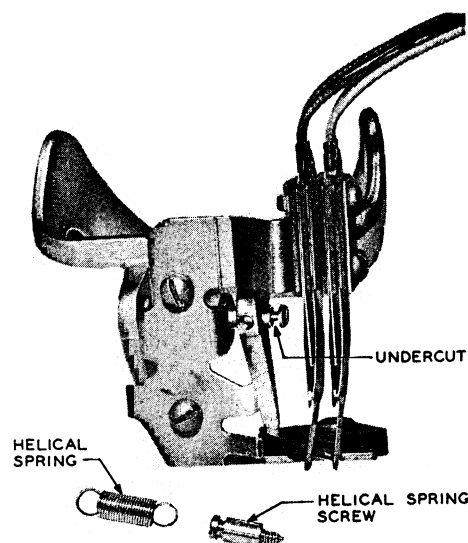

Fig. 2 — Switchhook Assembly
- When reassembling, care should be taken to be sure the undercut in the pin is assembled so that the screw for the helical spring engages with the undercut (see Fig. 2).